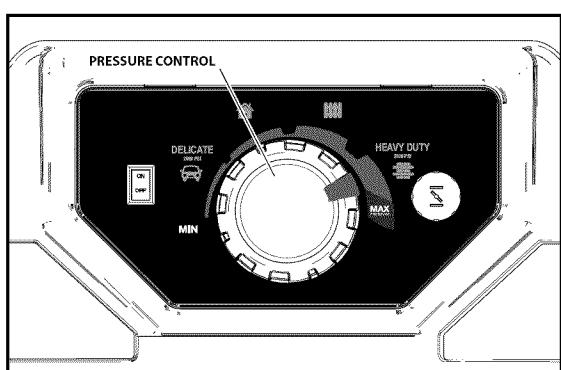

Figure 5-3. Power Dial
- Rotate pressure control knob to the position shown on "Start" decal (Item #2) (Figure 5-3).